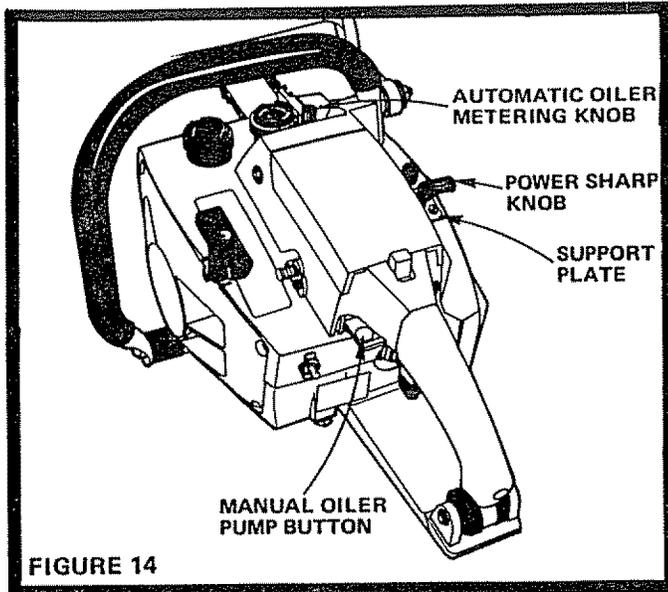

FIGURE 14
1. Press the Manual Oiler Pump Button often during the first few minutes of operation even if you are not cutting wood (Fig. 14).
2. The Automatic Oiler Metering Knob setting at 1 - 1/2 turns open is for green wood; if seasoned hard wood is being cut, more oil will be required -- turn Knob counterclockwise to increase oil flow (Fig. 14).
- ✓ IS THE POWER SHARP KNOB IN STORAGE POSITION? Knob should be in the far right hand position in Support Plate (Fig. 14).